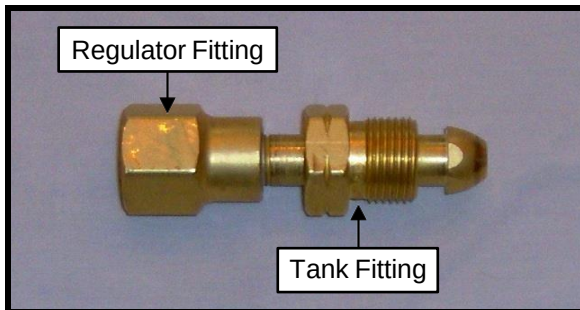

Figure 1.
Important Note: Compressed Air Cylinders are supplied with a Female left-hand threaded Tank fitting (CGA-590). Pressure Regulator BEREG02 supplied in the Blowing Head Equipment Kit has a Male right-hand threaded Nut (CGA-580). A CGA-590 Industrial Air Cylinder-to-CGA-580 Nitrogen Regulator Cylinder Adapter is therefore required to connect the Pressure Regulators to the Tank fitting. One (1) Cylinder Adapter is required for each Pressure Regulator used. **See Fig. 1**